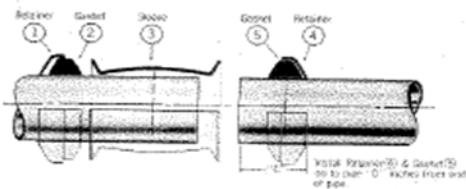

Figure 1
- a) Install retainer (1), gasket (2) and sleeve (3) on one side of pipe in sequence shown in Figure 1.
- b) Install remaining retainer (4) and gasket (5) on other pipe end.
- c) Position retainer (4) and gasket (5) to proper pipe insertion depth ("D") as shown in Table 1.